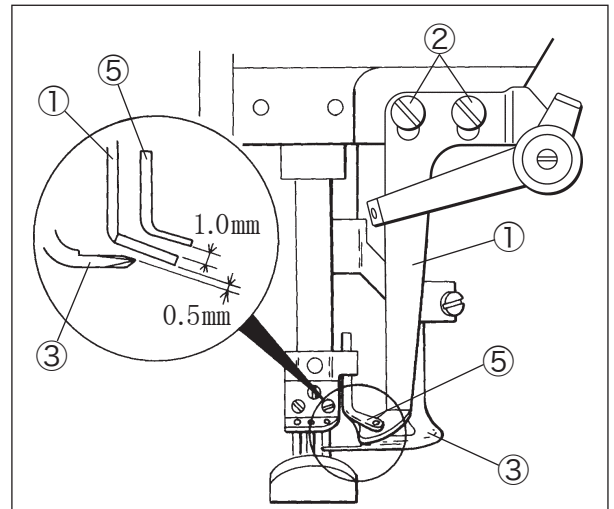

Fig. 6-15
- (1) Loosen the screws ② of the top cover thread guide ①. (Fig. 6-15)
- (2) Adjust the clearance between the top surface of the spreader ③ and the bottom of the top cover thread guide ① to 0.5 mm. (Fig. 6-15)
- (3) When the spreader ③ is at the extreme right, adjust the top cover thread guide ①'s position so that the center of slot of the top cover thread guide ① is at the tip ④ of the hook. Tighten the screws ② securely. (Figs. 6-15, 6-16)
- (2) Adjust the clearance between the top of the top cover thread guide ① and the top cover thread eyelet ⑤ to 1.0 mm when the needle bar is at the lowest point. (Fig. 6-15)